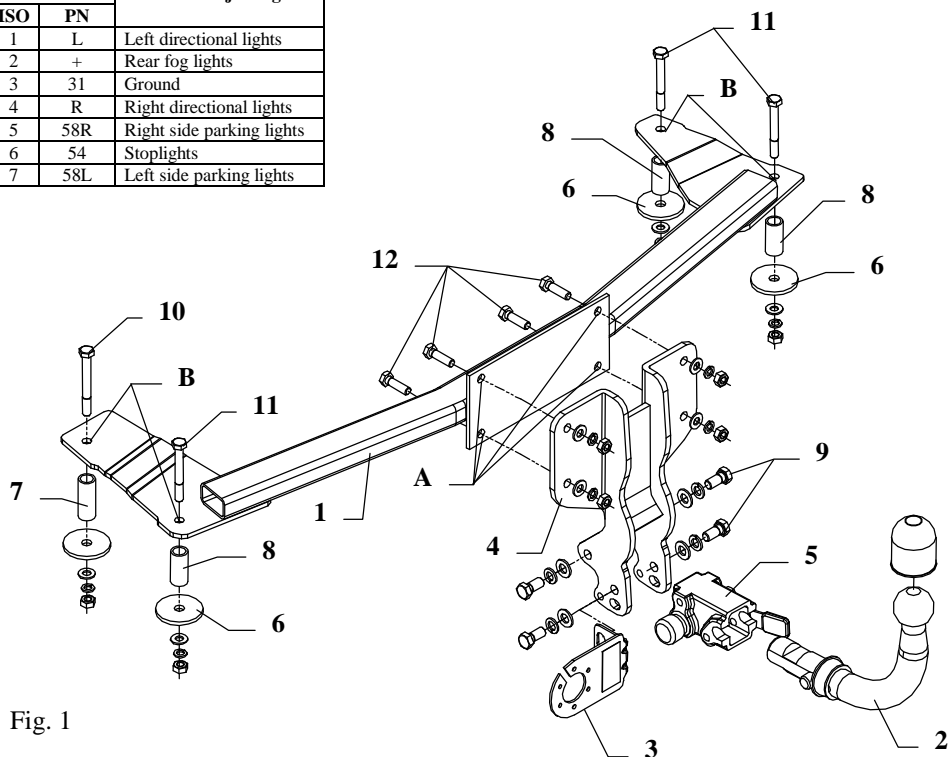

Fig. 1
4. Position the main bar of the towing hitch (pos. 1) in the trunk and fix it with the bracket (pos. 4) through the 4 drilled holes (pos. A) - use bolts M10x35mm (pos. 12).
5. Position the sleeves (pos. 7 and 8) properly at the bottom of the car, then fix it through the holes (pos. B) using suitable bolts M10x80mm (pos. 11) and M10x90mm (pos. 10) together with large washers (pos. 6) – see fig. 1.
6. Fix body of the automat (pos. 5) and the socket plate (pos. 3) using bolts M12x25mm (pos. 9) from accessories. Place tow-ball (pos. 2) according to supplied instruction.